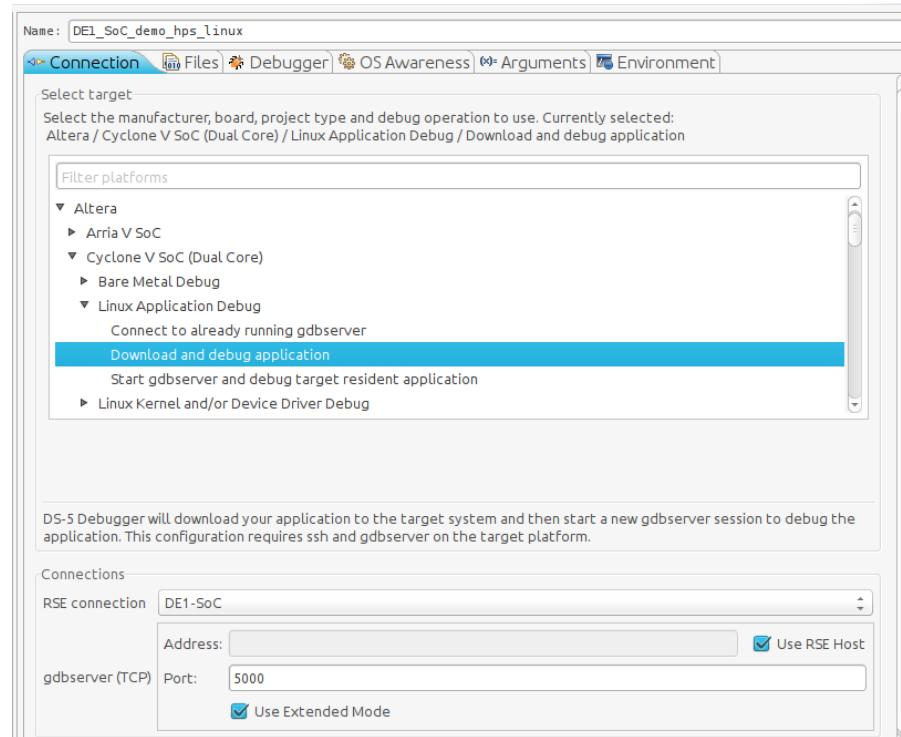

Figure 13-13. Debug Configuration "Connection" Tab
- b. Set the "RSE connection" to "DE1-SoC". This is the remote system connection we created earlier. You should have something similar to Figure 13-13.